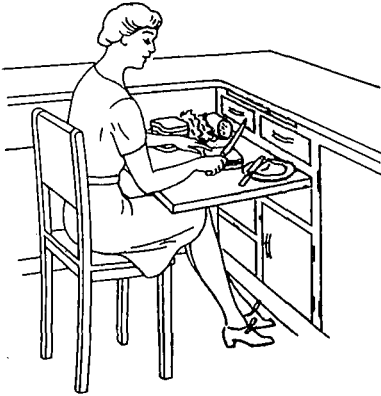

FIG. 12. A lap board is useful in the small kitchen
**Conveniences for Old Cupboards.** Cupboard spaces may be improved by adding boards, shelves, and racks. The lap board is useful in the kitchen that is too small for a work table with comfortable height for the seated worker (figure 12). It should be 25 to 26½